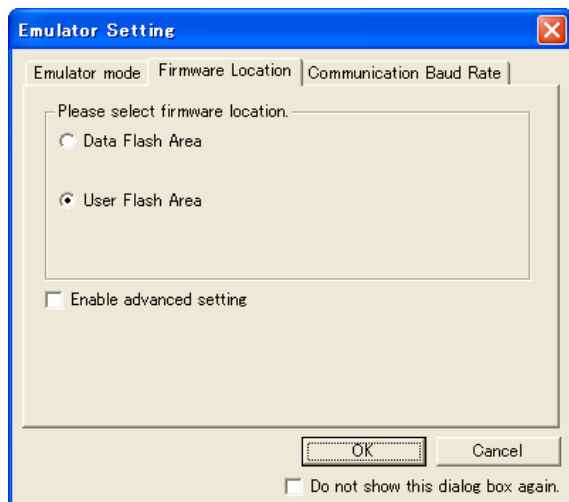
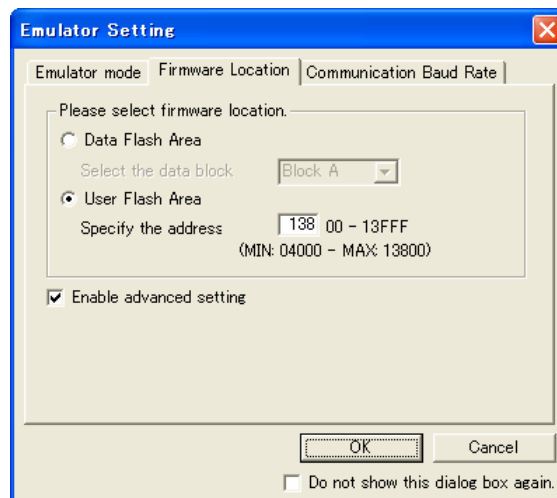

Figure 6.1 [Firmware Location] tab of [Emulator Setting] Dialog Box (1)
Figure 6.2 [Firmware Location] tab of [Emulator Setting] Dialog Box (2)
- When starting the debugger, the [Emulator Setting] dialog box shown in Figure 6.1 is displayed. Specify the area which will not be used by the user system. If the [Enable advanced setting] check box is checked, the area used by the emulator can be specified with the address (Figure 6.2).